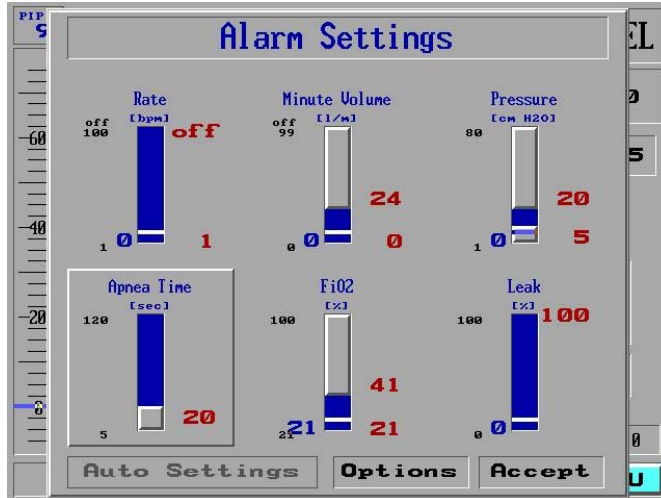

Figure 137: The Apnea Time Alarm Slider Selected
3. In the **Alarm Settings** screen, dial the Control Knob until **Apnea Time** is selected in relief (Figure 137).